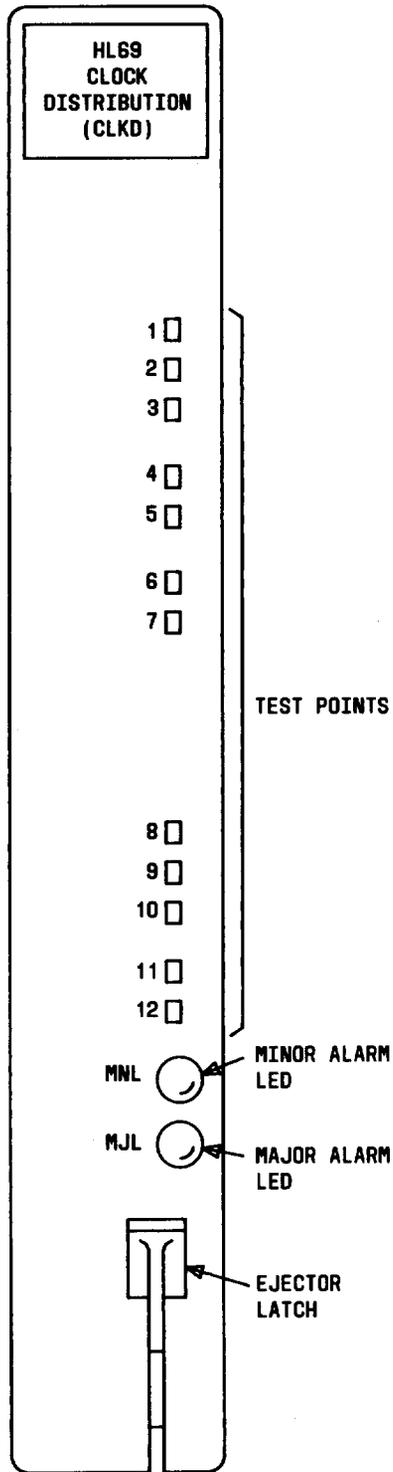

Fig. 1—Faceplate of an HL69 Circuit Pack
3.01 Proper operation of a CLKD CP can be checked by visual observation of the alarm LEDs (light-emitting diodes) on the faceplate of the HL69 CP (Fig. 1). The clock signal to the CP from the BCPA unit must be present and in proper alignment, and the BCPA unit must be operating properly before this check is valid. If the minor alarm LED on the faceplate of a CLKD CP is lighted, this is an indication that the CP is defective. If the major alarm LED is lighted, this is an indication that both of the CLKD CPs in a 2-shelf MJU assembly are defective.